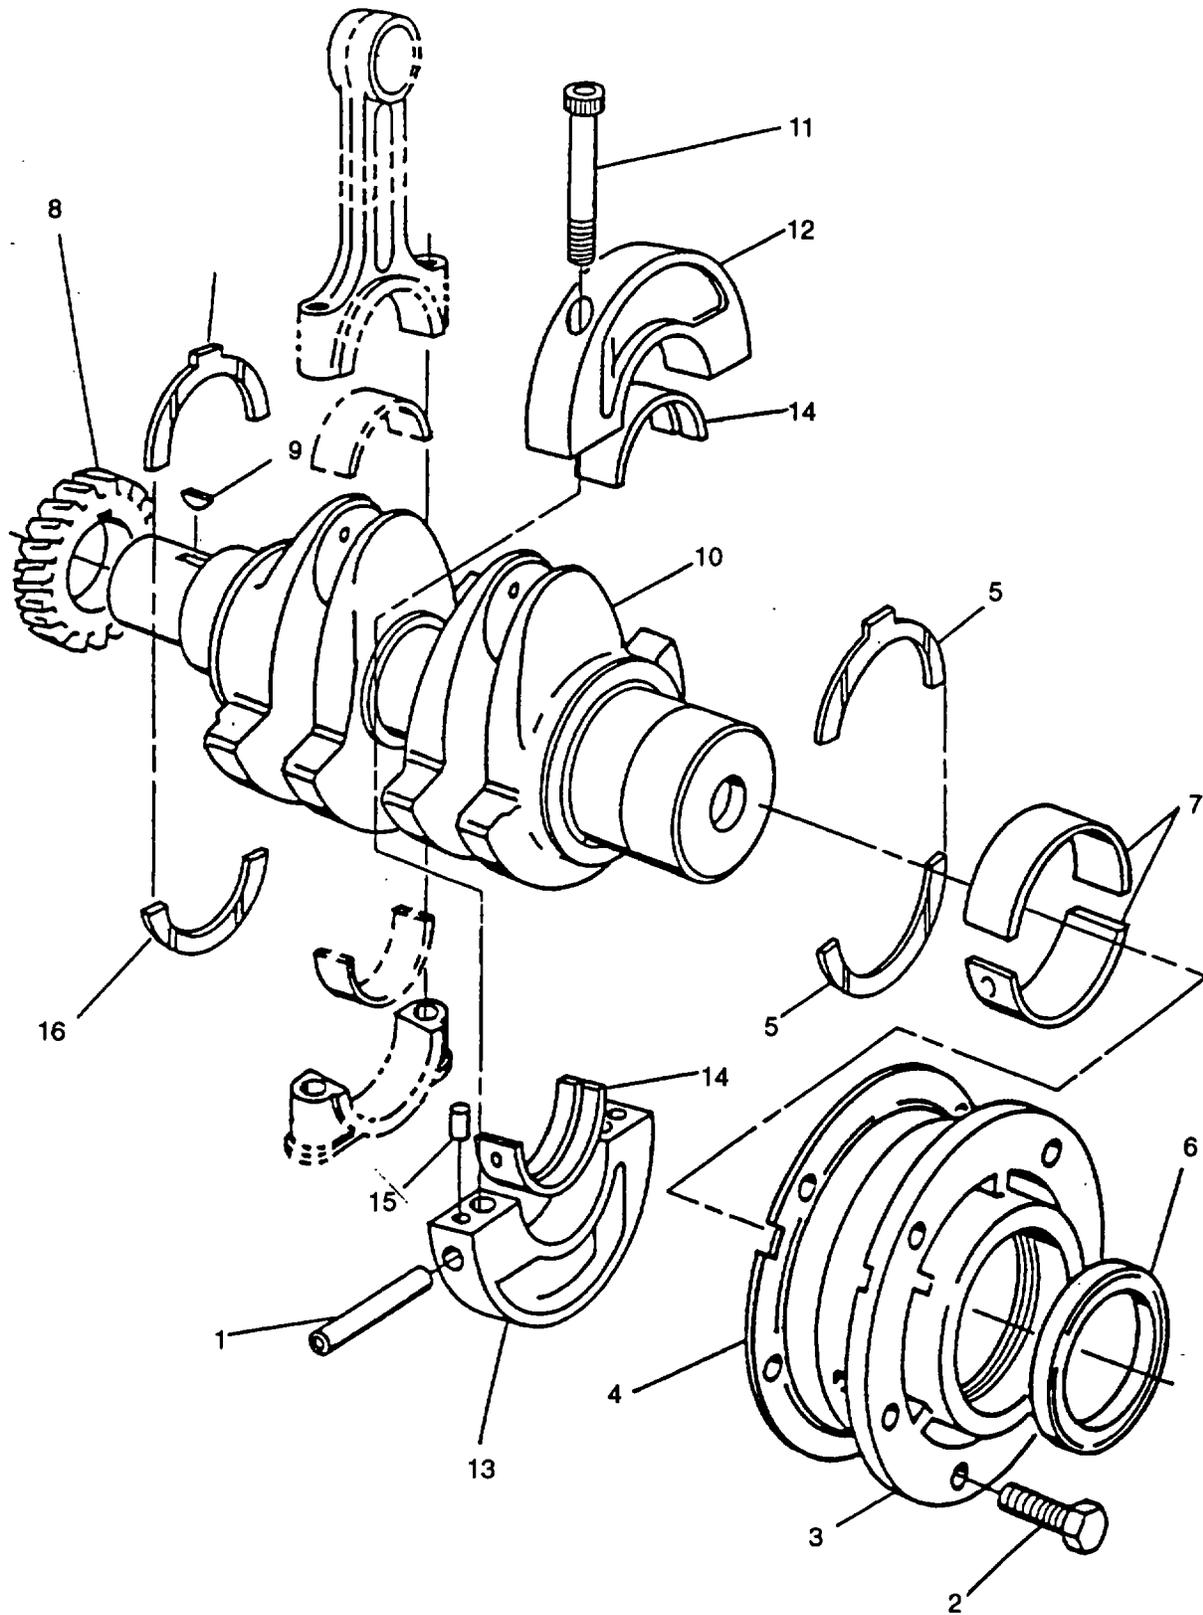

FIGURE 3-40. Crankshaft Assembly
- e. Remove five capscrews (2, FIGURE 3-40) securing main bearing housing (3).
- (3) Install bolt and dolly into bearing (7, FIGURE 3-40) from oil seal side (crankcase outside face).
- (4) Install bridge over bolt threads until two legs are against housing face.
- a. Install bearing (7, FIGURE 3-40) in main bearing housing (3) as follows:
- (1) Mount housing (3) in a soft-jawed vice with small oil feed hole facing up.
- (2) Place large tapered collar of main bearing tool (317-50111) on a bench with pilot facing up.
- (3) Place new bearing shells (7) into collar ensuring one oil feed hole is in line with pilot pin of collar and end of shell is in line with the mark on collar face.
- (4) Place driver onto collar with cutout on driver located over collar pilot pin.
- (5) Push driver sufficiently until bearings (7) come out other side of collar to provide a lead in.
- (6) Install assembly into housing (3) from oil seal side (crankcase outside face) with pilot pin in line with oil feed hole in housing.
- (7) Place bolt through assembly.
- (8) Install bridge, spacer, and nut onto bolt.
- (9) Tighten nut until driver is against face of collar.
- (10) Remove tool.
- i. Using a suitable puller, remove crankshaft pinion gear (8, FIGURE 3-40). Remove key (9) from crankshaft (10).
- b. Position new center bearing shells (14, FIGURE 3-40) on upper and lower housing. Install upper housing (12) and lower housing (13) ensuring words FLYWHEEL END are facing flywheel end of crankshaft (10). Secure with two capscrews (11) and tighten to 186 in-lbs (21.0 Nm).
- c. Install crankshaft (10) into crankcase from flywheel end. Ensure that center bearing locating tube hole is aligned with hole in crankcase.
- d. Apply a small amount of general purpose grease (630AA) to steel side of thrust bearings (16) and place them in gear end of crankcase with tab correctly located and copper face toward crankshaft (10).